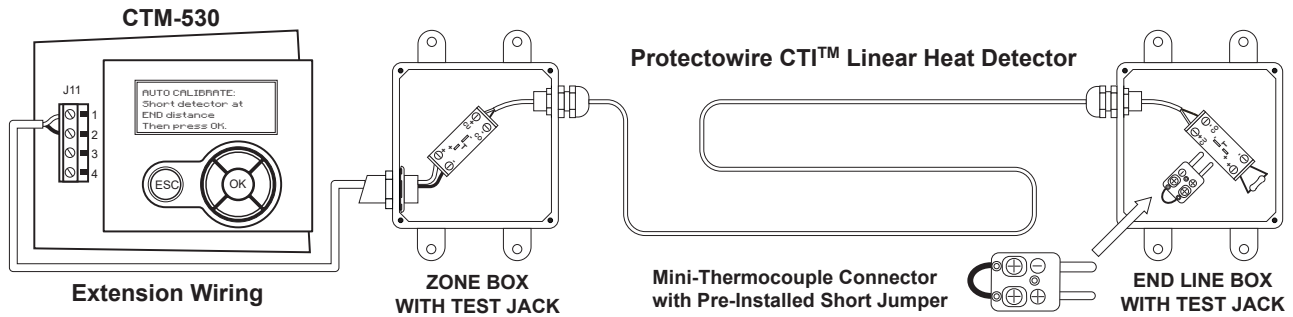

Figure 9
Step 2 - Place a short across the end (END distance) of the CTI linear heat detector run as depicted in Figure 9 for Class B and as depicted in Figure 10 for Class A.